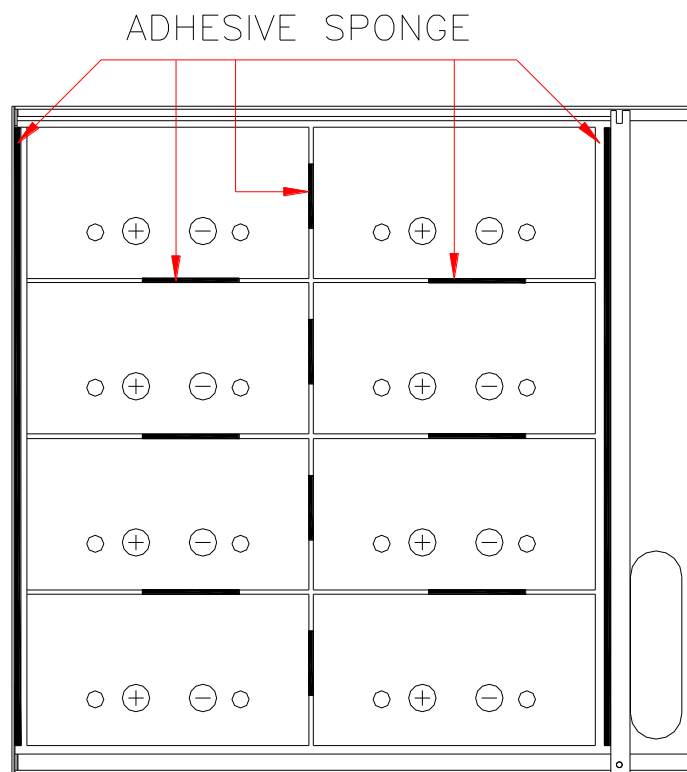

Fig.2.
- Position the batteries, starting from the bottom upwards, as indicated in Fig.2, blocking them to the right with the bracket supplied.
- The supplied 10 cm adhesive sponge must be put on the batteries, as indicated in Fig.2, before batteries can be positioned.